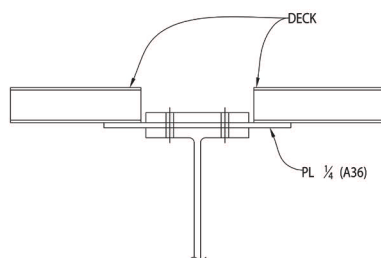

Figure 7. Deck Bearing at Bolted Flange-Plate Connection
44. When using a field-bolted top flange plate, make a note to provide deck bearing at the flange connection. A ¼-in. shim between plate and flange can be extended providing support in lieu of a standard deck angle. **Figure 7** shows an example with a ¼-in. shim.